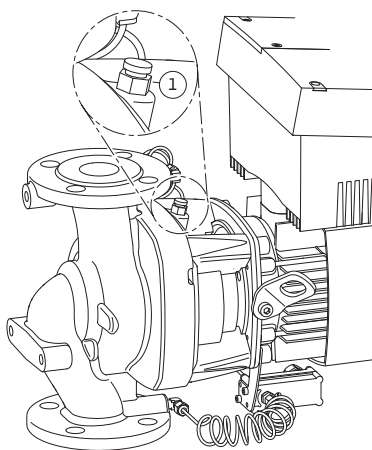

Fig. 45: Ventilation valve
- Vent the pumps by loosening the air vent valves (Fig. 45, Item 1). Any dry running would destroy the mechanical seal of the pump. The differential pressure sensor must not be vented (risk of destruction).